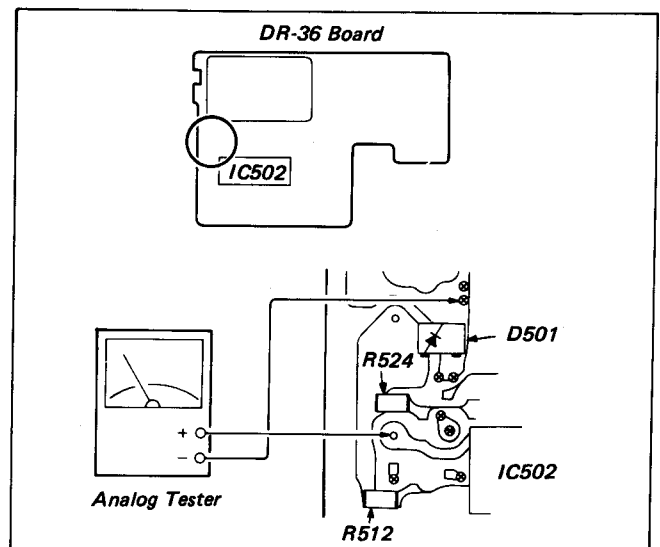

Fig. 8-58.
- 6) Measure voltage (V_o) at both ends of R523 on DR-36 board with analog tester (Non-load state). (See Fig. 8-58.)
- 8) Remove the driving gear (B) assembly as instructed in 3) of 1. Removal in 8-3-14.